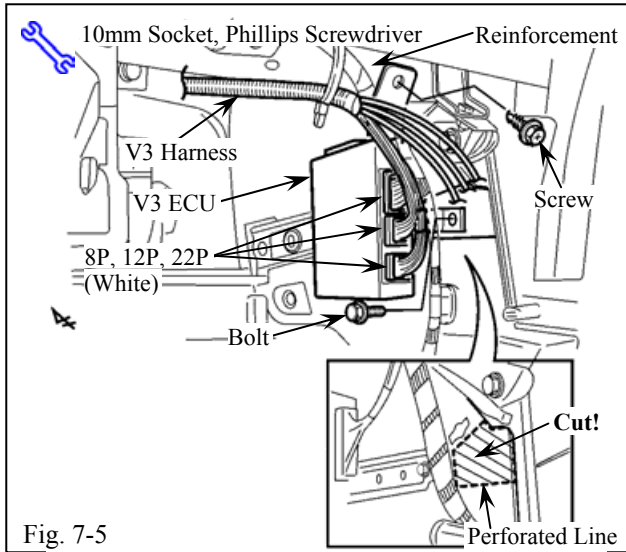

Fig. 7-5
- (e) Locate the perforated line in the right side of the glove box area, then cut off the carpet. (Fig. 7-5)
- (f) Connect the V3 harness' white 8P, white 12P, and white 22P connectors to the V3 ECU. (Fig. 7-5)
- (g) Temporarily install the V3 ECU bracket to the vehicle's body in the glove box area with one bolt supplied in the kit. (Fig. 7-5)
- (1) Do not tighten the bolt yet.
- (h) Using the screw supplied in the kit, secure the upper portion of the V3 ECU bracket to the reinforcement, then tighten the bolt. (Fig. 7-5)
- (1) Verify the screw and bolt are tightened and secured.